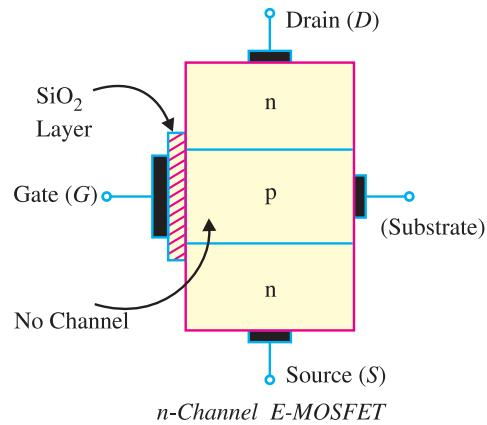

Fig. 19.44
2. E-MOSFET. Fig. 19.44 shows the constructional details of *n*-channel E-MOSFET. Its gate construction is similar to that of D-MOSFET. The E-MOSFET has no channel between source and drain unlike the D-MOSFET. Note that the substrate extends completely to the SiO_2 layer so that no channel exists. The E-MOSFET requires a proper gate voltage to *form* a channel (called induced channel). It is reminded that E-MOSFET can be operated *only* in enhancement mode. In short, the construction of E-MOSFET is quite similar to that of the D-MOSFET except for the absence of a channel between the drain and source terminals.